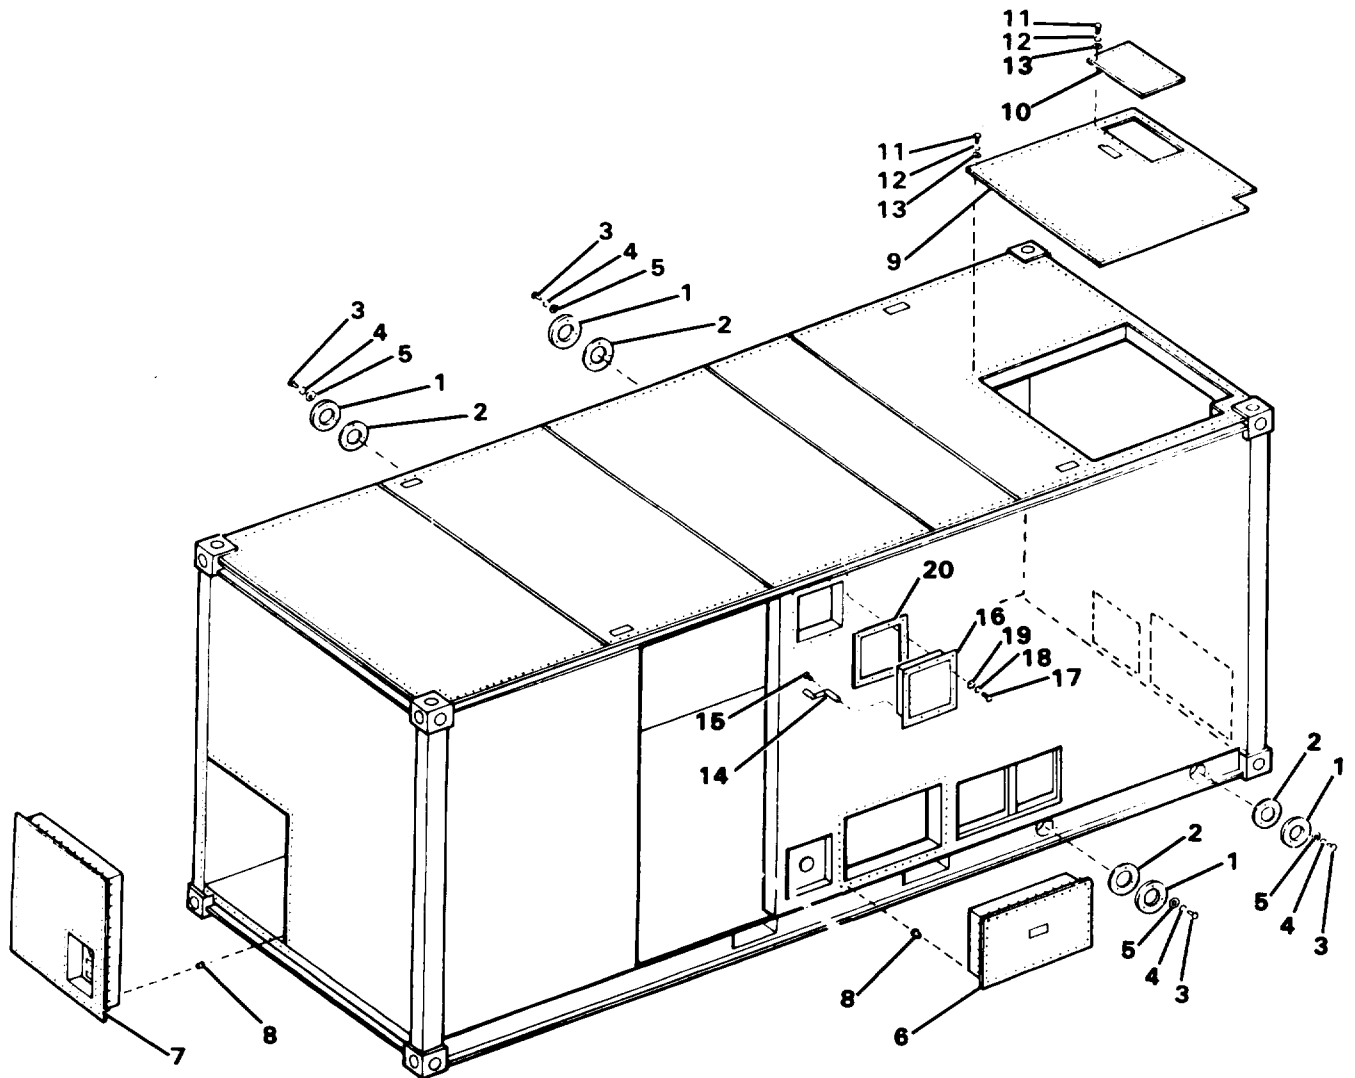

Figure 4-84. Access Panels and Seals
- a. Drain Outlet Seal Collars (1, Figure 4-84).
- (1) Remove capscrews (3), lockwashers (4) and washers (5).
- (2) Remove seal collar (1), then carefully remove gasket (2).
- b. RO Element Access (7) and Pump Access (6).